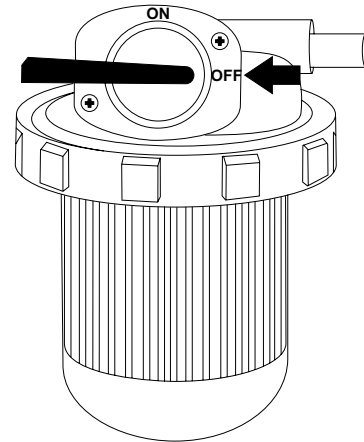

Figure 61. Fuel Valve Lever (OFF)
7. Place the fuel valve lever (Figure 61) in the **OFF** position.